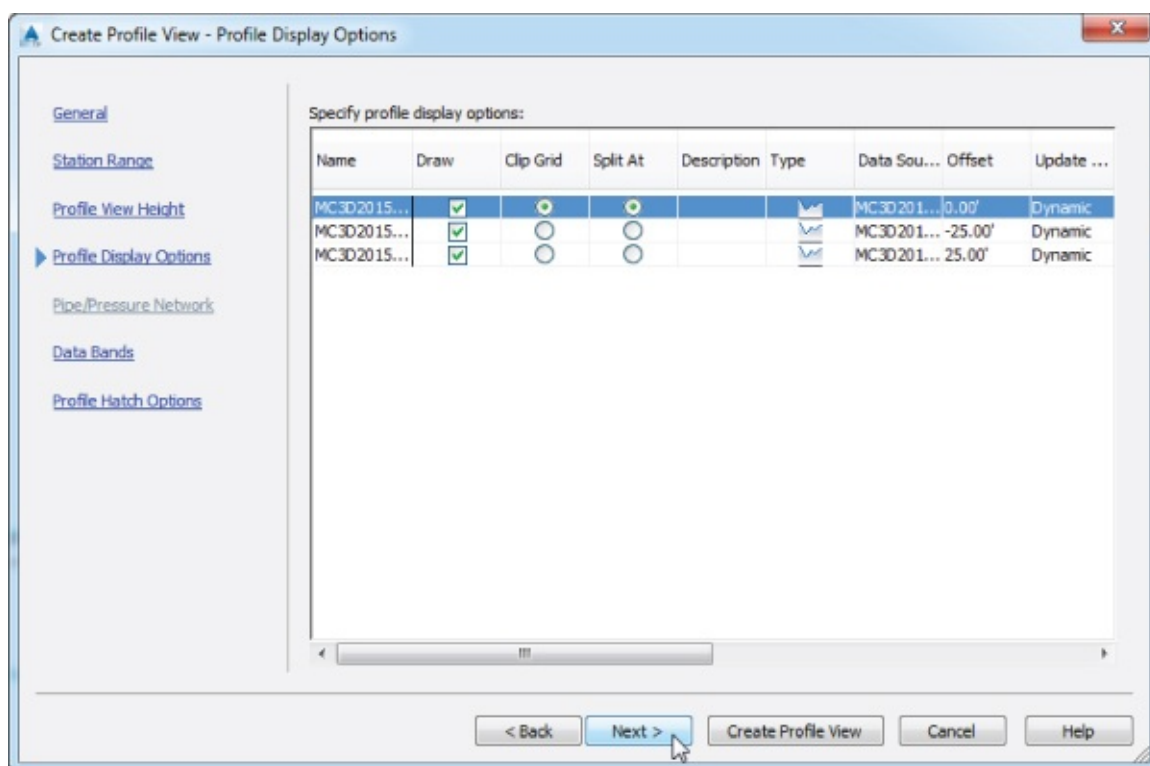

Figure 7.8 The Create Profile View – Profile Display Options wizard page
16. On the Create Profile View – Profile Display Options wizard page, look at the settings but do not make any changes (Figure 7.8). Click Next.